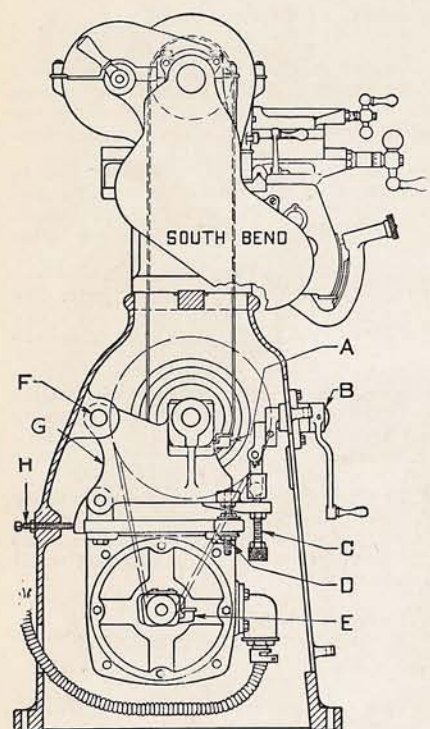

Fig. 1. Cross Section End View of Underneath Belt Motor Driven Lathe.
Motor and Driving Unit are enclosed in the cabinet leg under the headstock. Attached to Cradle (G) Fig. 1, are the countershaft and electric motor. The belt tension release lever (B) controls the position of the cradle and countershaft. When lever (B) is in the "Up" position the entire driving unit is lifted vertically about  $1\frac{1}{2}$ " so the spindle belt may be shifted. When lever (B) is in the "down" position the driving unit is in position for the operation of the lathe. (A) and (E) are oil cups for lubricating bearings.
Fig. 1. South Bend Underneath Belt Motor Driven Bench Lathe with Section of Bench Front Cut Away to Show Drive Mechanism. Bench used is illustrated and described on page 56.